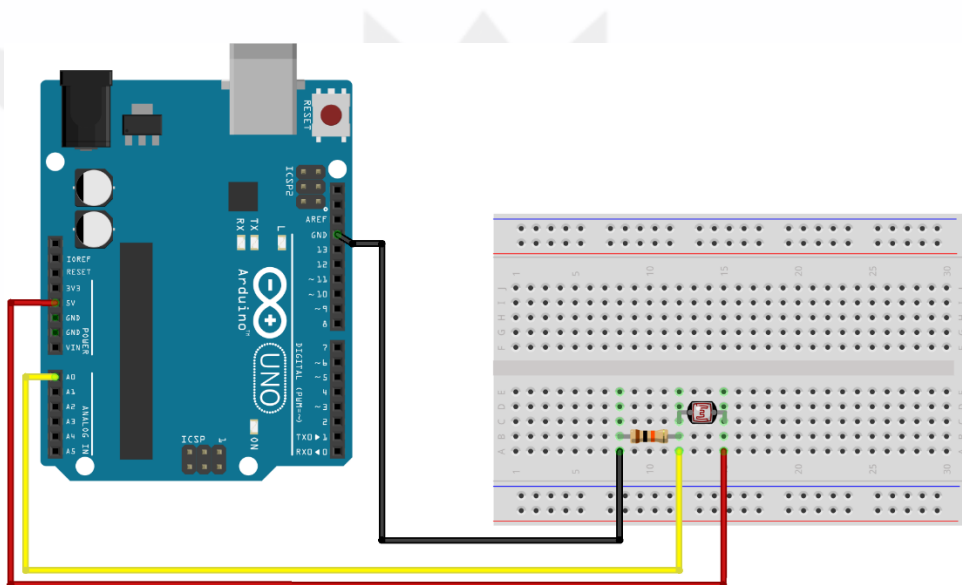

Figure 4.1 – Wiring diagram for LDR Light Meter project
- a. Assemble the connections for light meter project as shown in the **Wiring Diagram (Figure 4.1)**.